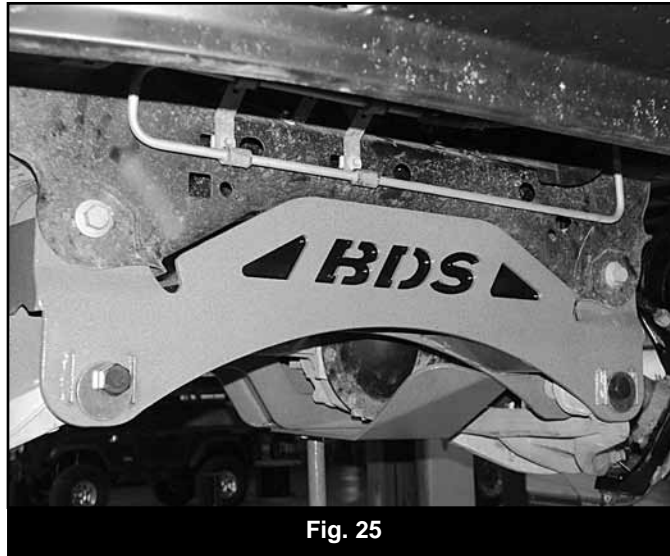

Fig. 25
45. Install the front crossmember in the front lower control arm pockets and fasten with the OE lower control arm hardware (Fig 25). Leave hardware loose.